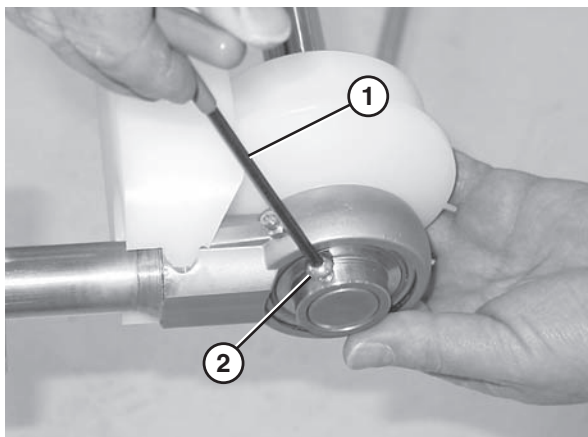

Figure 87
9. Use a hex wrench (**Figure 87, item 1**) to tighten the bearing shaft fasteners (**Figure 87, item 2**) to 6 N•m. Check after 24 hours of conveyor use.